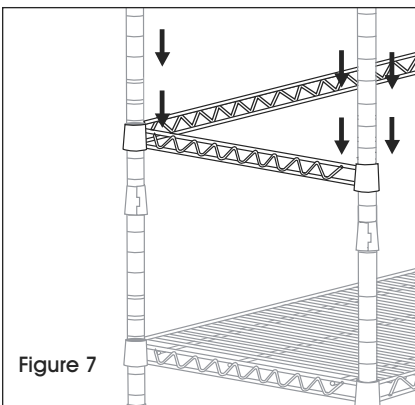

Figure 7
4. Determine the height of the frame, snap supports to post, then add frame. Gently tap down to secure. Repeat for remaining shelf and frame. (See Figure 7)